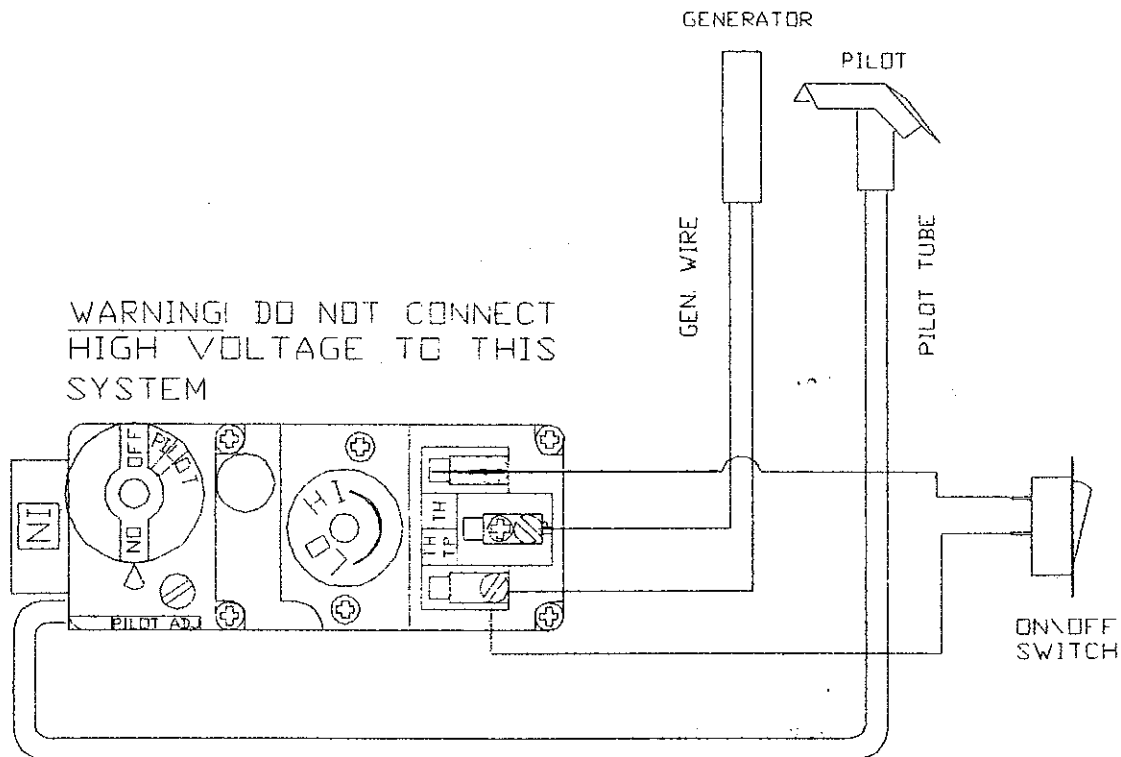

FIG. 6
F) WALL SWITCH - REMOTE CONTROL INSTALLATION (opt.) See Fig 6.